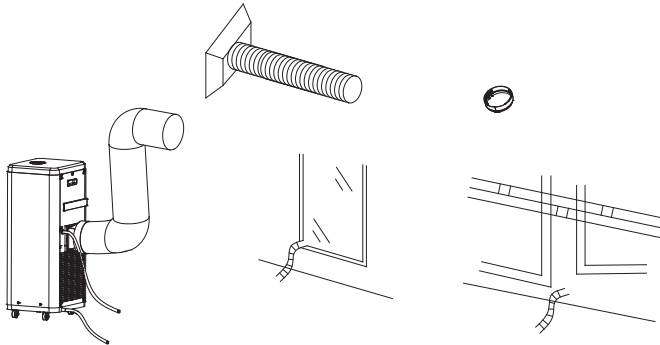

Fig.9
2. Insert the square fixing clip into openings at back of the air conditioner (see Fig.9).